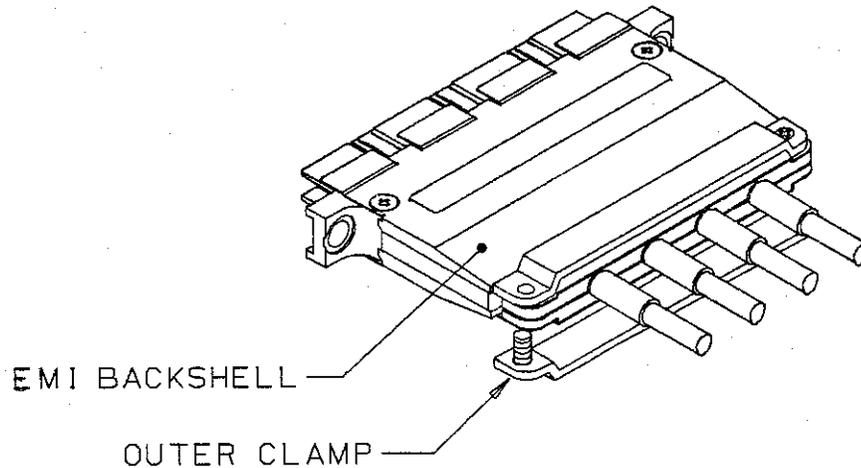

Figure 5-11. Installing Outer Clamps
2. Install the outer clamps at the rear of the EMI backshells (Figure 5-11).